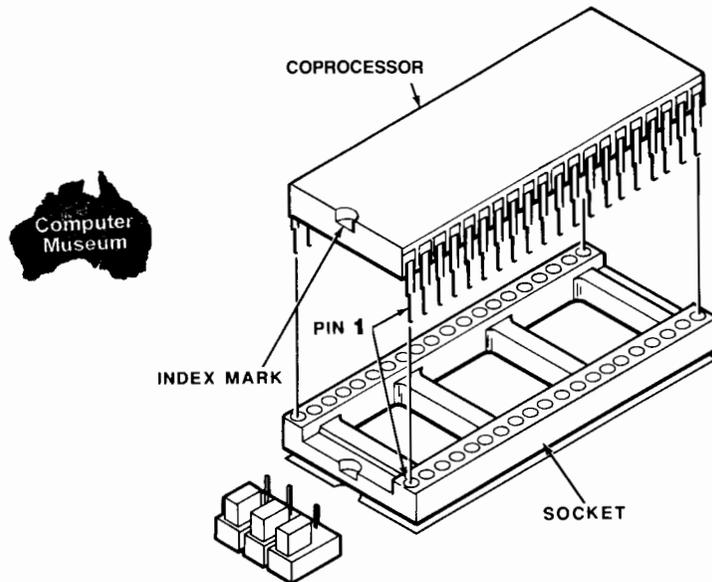

Figure 2-3. Orientation and Alignment of the Coprocessor
10. Position the coprocessor over the coprocessor socket. Make sure that the index mark of the coprocessor is positioned toward the jumpers next to the socket as shown in Figure 2-3.